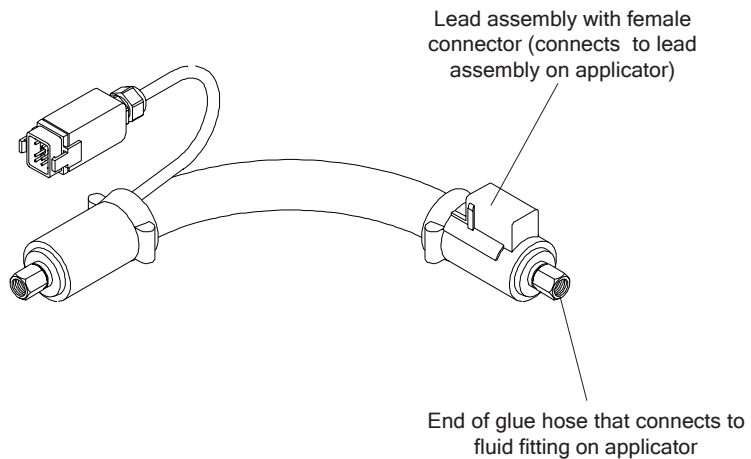
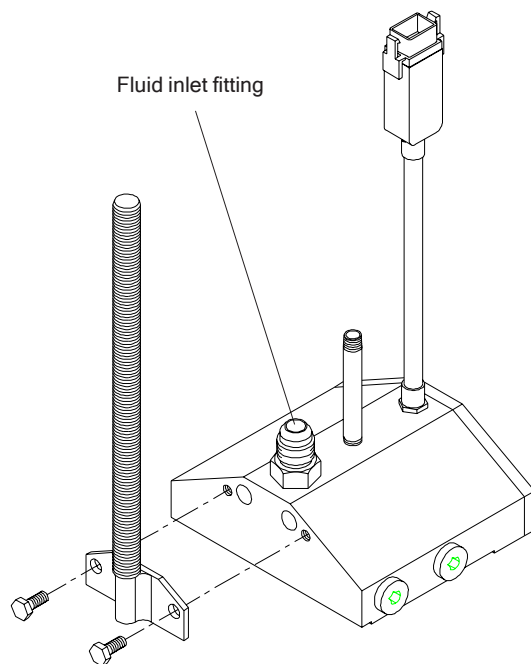

Figure 4-12. Hot Melt Hose
Figure 4-13. Applicator
2. Connect the end of the hot melt hose (Figure 4-12) to the fluid inlet fitting on the applicator (Figure 4-13).